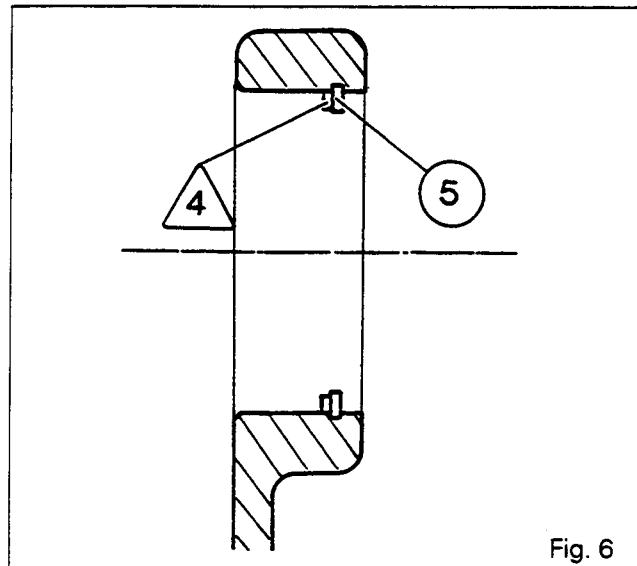
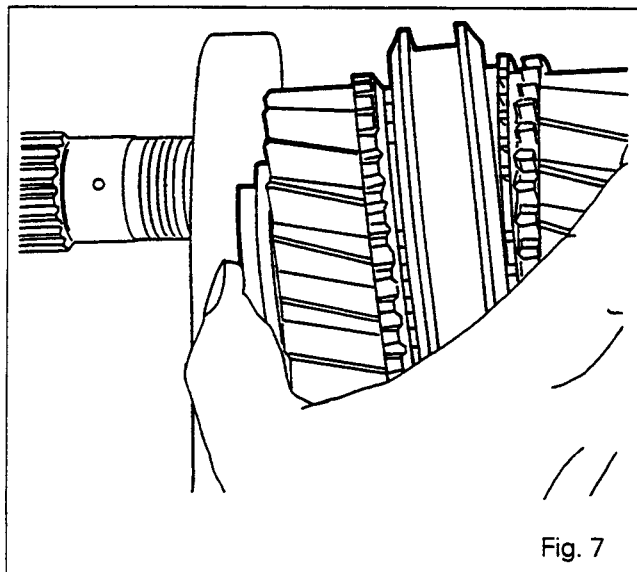

Fig. 6
Fig. 7
26. Using a press, fit the bearing cone (17) onto the shaft (69).
27. Fit the retaining ring (70). Fit the circlips (5) and (15).
28. Position the shim /4\ against circlip (5) (Fig. 6).
30. Install the shims [3] and the cups (2) and (16).
31. In the housing and in the following order, assemble the 1st gear (7), cone (9), the 1st gear synchromesh ring (10), the 1st and 2nd speed synchromesh (11), the 2nd gear synchromesh ring (12), cone (13) and the 2nd gear (14) with bush (8).
32. Insert the shaft through the rear of the housing, while supporting the synchromesh gear assembly (Fig. 7).
45. Unlock nut (68). Remove the gear (67).
46. Take out the cup (2).
Note : The shim /4/ must be positioned on the same side as the circlip (5) (Fig. 6).
50. Lightly coat the nut (68) with Loctite 270 and then tighten to a torque of 130 - 170 Nm.
52. Insert the spring (72) and the oil feed pipe (71) into the shaft.
54. Fit the gear (18) and the synchromesh cone (20), as well as the ring (21) and the 3rd and 4th synchromesh (23).
55. Fit the circlip (26).